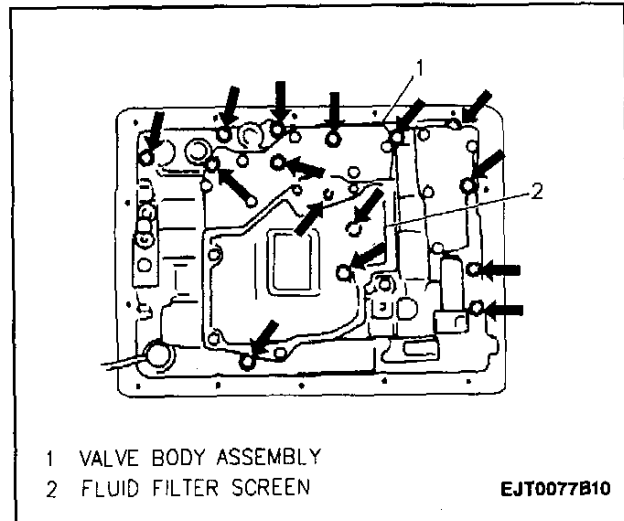

Figure 69—Valve Body Bolt Location (03-72LE, 4-Speed)
Figures 69 through 71
- 2. Fifteen bolts retaining valve body and valve body from transmission case by (Figure 69):